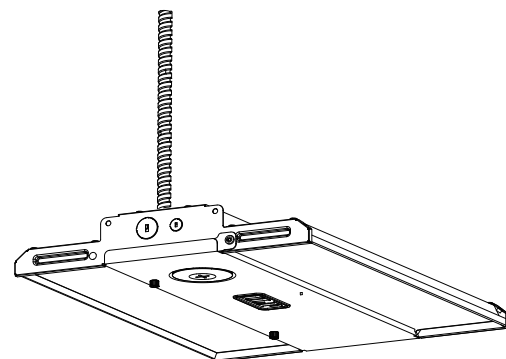

Figure 13
- Snap back the driver cover door shut into place and secure access panel to complete installation. . (Figure 13)